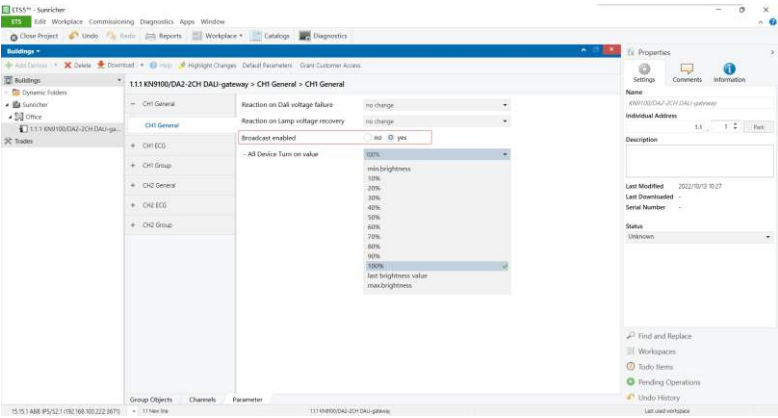

Figure 28
**Broadcast enabled:** this parameter is to set whether to enable the broadcast control of CH1, available settings: "no", "yes", if it is set as "yes", "All devices turn on value" needs to be set, available settings are "10%-100%", "min. brightness", "max. brightness", and "last brightness value" as shown in Figure 28.